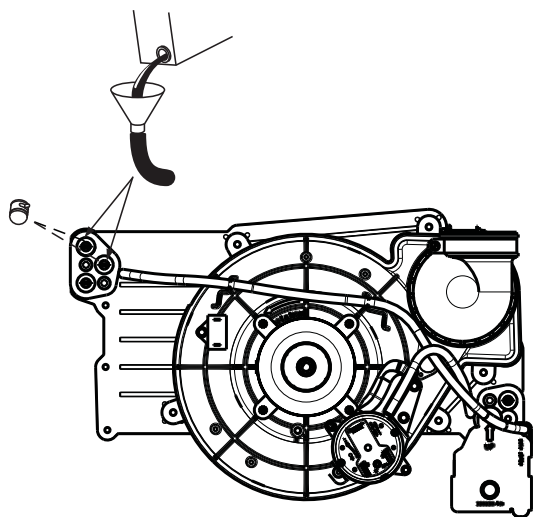

Fig. 29 – Winterizing Furnace
4. Remove one of the unused rubber plugs in the port on the collector box opposite the condensate trap. See Fig. 29